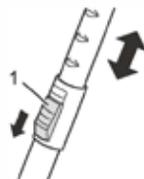

Fig.4
4. Adjust the length of the telescopic tube. Press down the release latch on the tube (Fig. 4/1) to do this. Then pull the handle of the telescopic tube to extend (Fig. 4/1) it to your desired length. Let go of the release catch while pulling until it locks in place. You will hear a distinct click. Your vacuum cleaner is now ready for use.